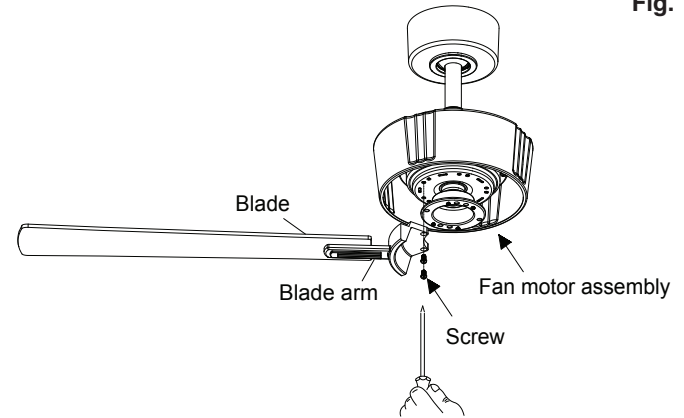

Fig. 17
Step 1. Fasten the blade assembly to the fan motor assembly by tightening the blade arm screw onto the fan motor assembly. (Fig. 17)